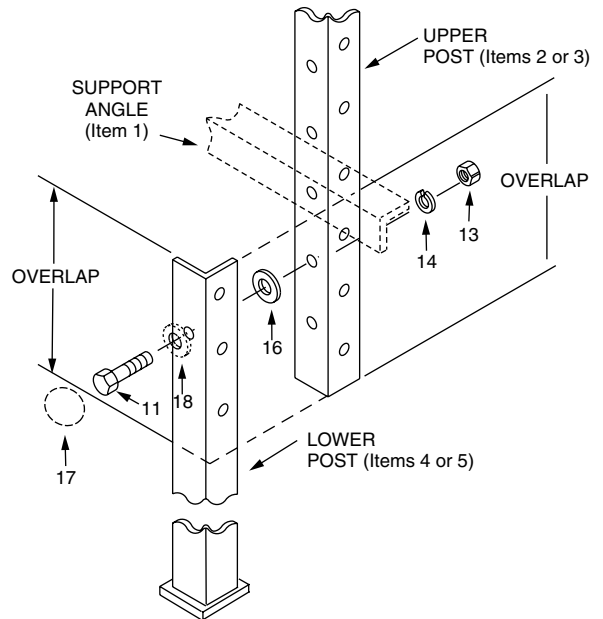

Figure 5. Attaching support angle Item 1 to upper and lower posts.
- A. Attach support angles (Item 1) to the remaining upper posts (Items 2 and 3) and lower posts (Items 4 and 5) with 1.75" hex head capscrews (Item 11), with a spacer (Item 16) between the upper and lower posts, and secure with lockwashers (Item 14) and .5" hex nuts (Item 13). The caplug retainer (Item 18) and caplug bolt cover (Item 17) are installed in the Item 1, 2, and 5 connection. See Figure 5.